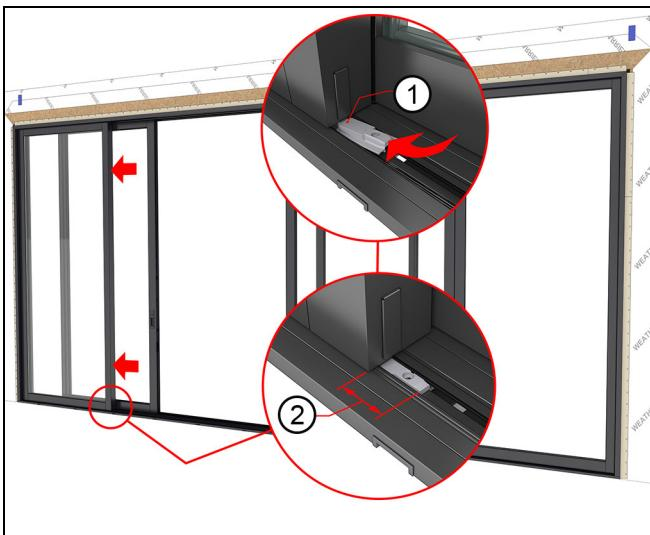

Figure 142
13. Snap the lower stationary bracket onto sill, then slide underneath the (C-L) stationary panel until fully seated. The bracket should stick out approximately $2\frac{1}{4}$ " (57) from panel when fully seated. Do not fasten the bracket until all the panels are installed and adjusted. See Figure 142.